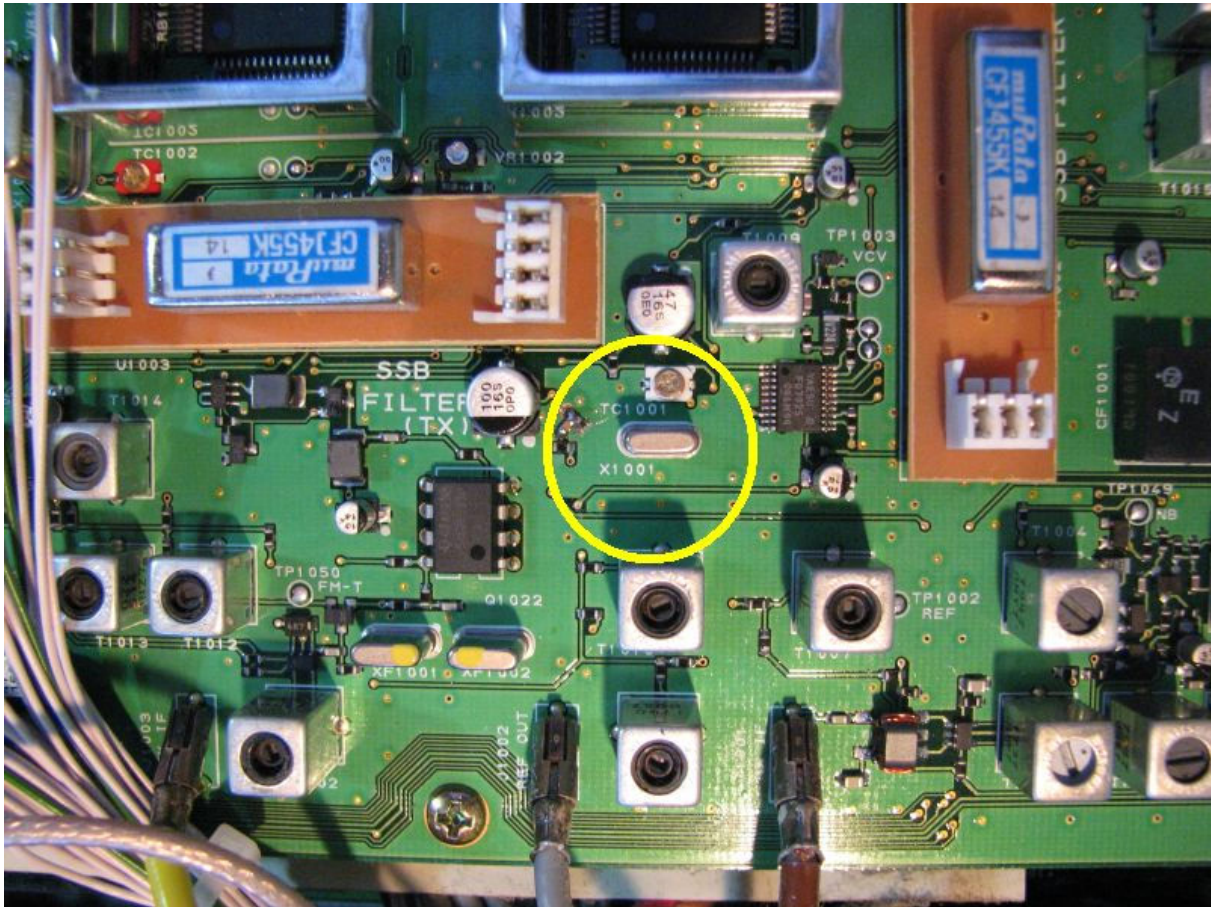

Figure 4 – Location of Reference Oscillator
3. Turn the rig upside down and find the Reference Oscillator area towards the centre front of the main (AF) board (Yellow circle in Figure 4).